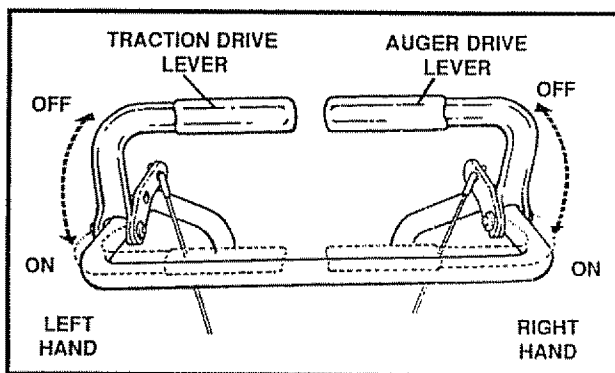

FIG. 11
- To stop throwing snow, release the auger drive lever (See Fig. 11).
- To stop the traction drive, release the traction drive lever. (See Figure 11).
- Engage the traction drive lever (See Fig. 11, left hand). As the snow thrower starts to move, maintain a firm hold on the handles, and guide the snow thrower along the clearing path. Do not attempt to push the snow thrower.
- Push down the auger drive lever (See Fig. 11, right hand).